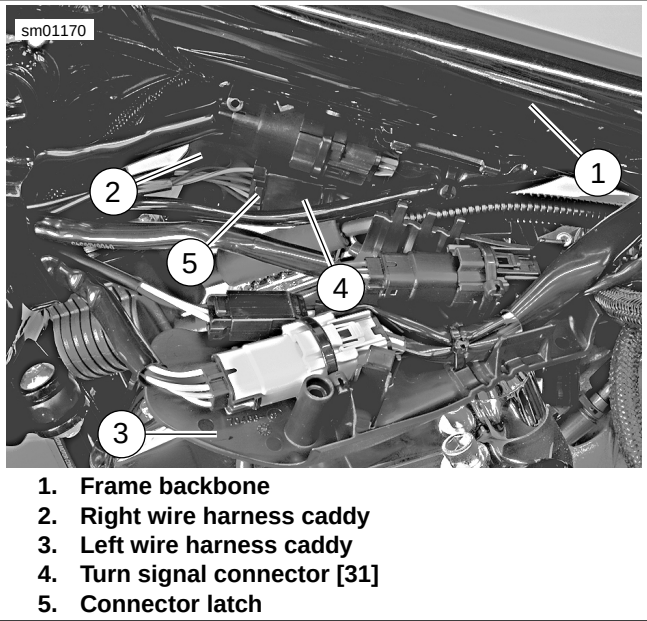

Figure 6-67. Turn Signal Connector [31]
6. See Figure 6-67. Locate turn signal connector [31] (4) mounted on right wire harness caddy (2). Depress latch (5) and separate connector halves.